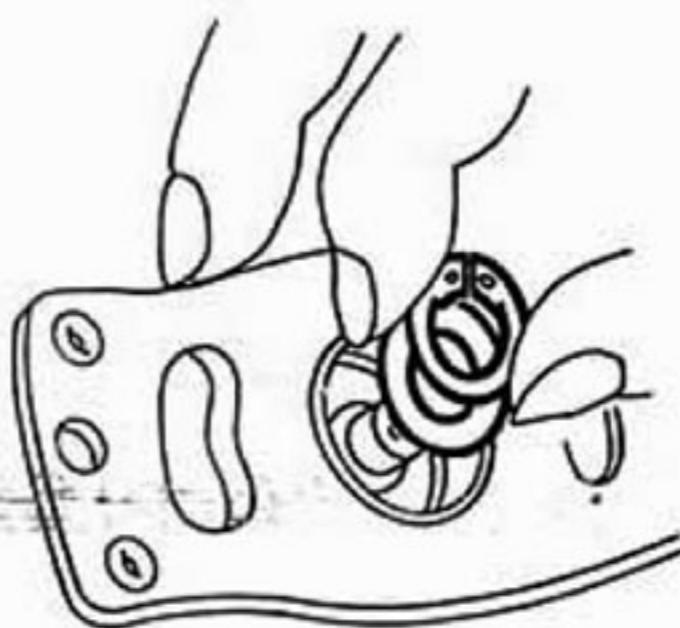

Fig. 2
- Fit the small retaining ring on top of the shim (fig. 2).